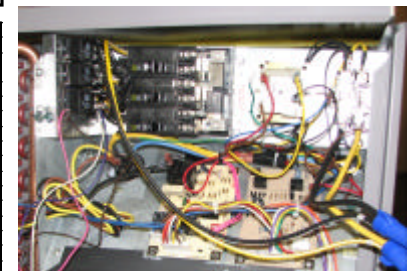

FIG. 3- Control panel installed.
3. **50ZPA, 564B, PA3Z, PAT3, 50ZHA, 664B, PH3Z, PHT3 units:** Connect the (5-pin) low voltage harness plug from the heater to the fan control board at position **P4** located inside the unit control box compartment (see fig. 3). Connect Black & Yellow "pigtails" from unit contactor using the connectors provided with the heater.